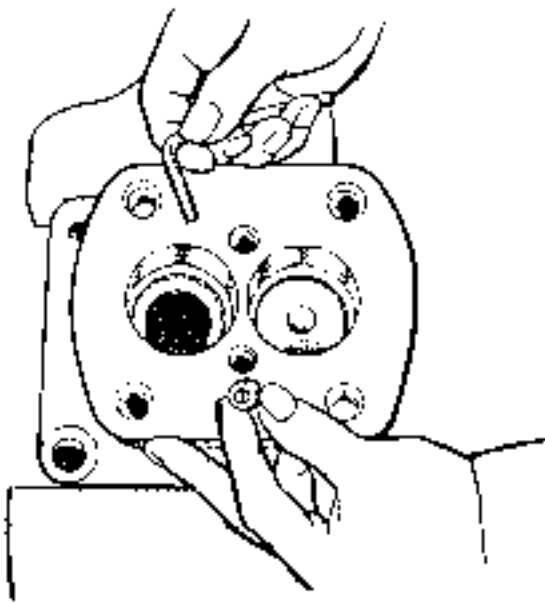
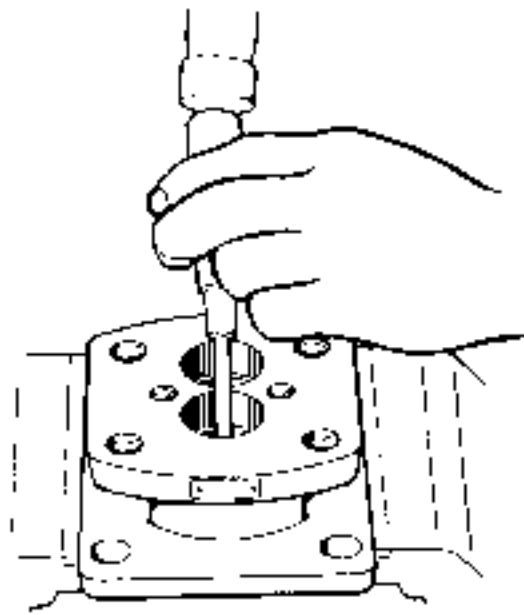

Fig. 12
Fig. 13
15. Remove shaft end cover (1), special frame (2), and shaft seals (6) of gear housings (2) and (2).
16. Unscrew stop plug (8) (PT 1/8) from the drain opening. Be sure to keep record of the plug position before unscrewing the plug. (Fig. 12)
17. With the mounting surface for shaft end cover (1) up, remove internal retaining ring (3).
18. Clamping shaft end cover (1) in a vise with its mounting surface down, drive out oil seal (6) with a screwdriver or the like from the opposite side of the mounting surface. (Fig. 13)
16. ドレン穴のプラグ(8) (PT 1/8)を外す。外した場合、位置を記録しておく。(Fig. 12)
18. シャフトエンドカバー(1)の取り付け面を下にして力舟で固定し、反対側からドライバー等でオイルシール(6)を叩き出す。(Fig. 13)